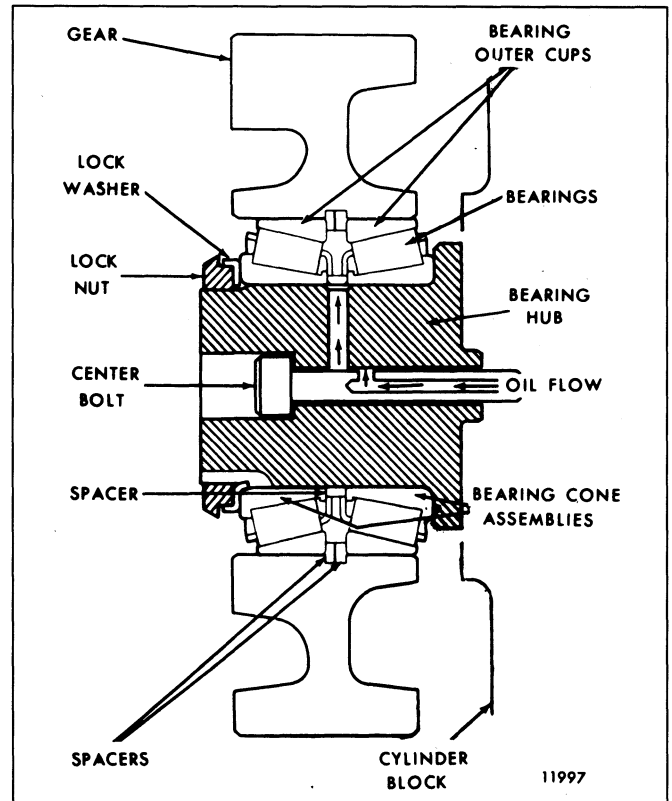

Fig. 2 - Camshaft Idler Gear and Crankshaft Rear Idler Gear Mounting
2. Install a drive coupling assembly on the rear drive flange camshafts with five 7/16"-20 x 1-1/4" (12 pt.) bolts in each coupling assembly. Tighten the bolts to 57-61 lb—ft (77-83 N·m) torque as follows (Fig. 2):
The rear gear train camshaft idler gears and the crankshaft idler gear (Fig. 2) are mounted on double-row tapered roller bearings which are all mounted on identical stationary hubs. The two camshaft idler gear hubs are each held in position against the block by a special drilled center bolt and four outer bolts. The two camshaft idler gear and bearing assemblies are each held in position on the hub by a special locknut and lock washer. The crankshaft idler gear hub and dummy hub (which acts as a spacer for the flywheel housing) are each held in position by a special drilled center bolt and four (4) outer bolts which are installed through the flywheel housing and hubs into the block. The crankshaft idler gear and bearing assembly is also held in position by a special locknut and lock washer.